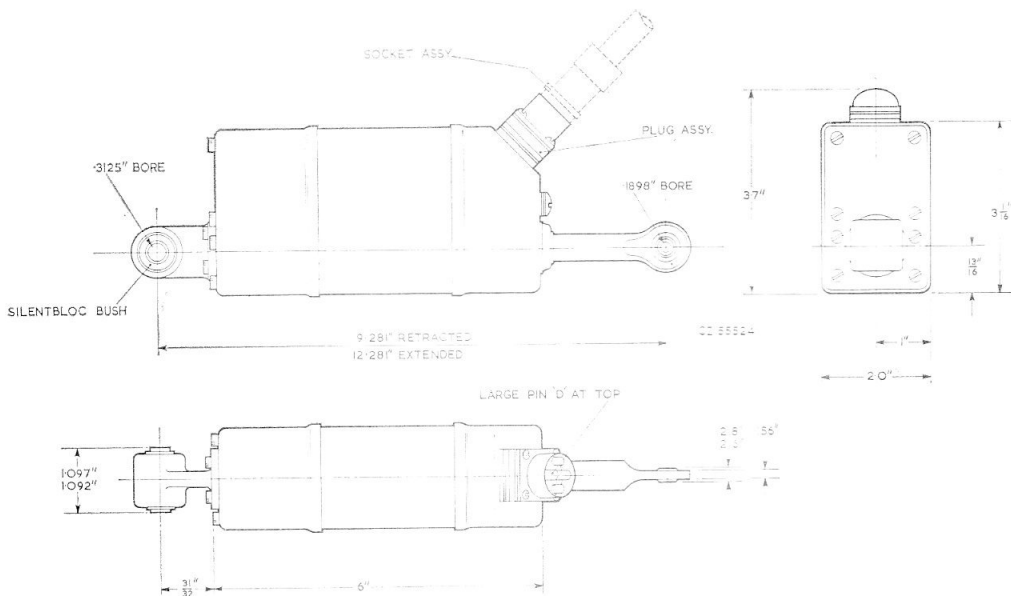

Fig. 4. Installation diagram
4. Fig. 4 is the installation diagram which includes details of end fittings, stroke setting, etc.
1. These actuators, Plessey Part No. 1CZ136520, are variants in the Jaguar (Standard) Series described in the main chapter. This type has a 6-pole plug, located at the front face of the front cover, for connection to the external electrical circuit. The typical circuit diagram, Fig. 4, in the main chapter, is applicable to actuators covered in this appendix. All other information given in the main chapter is applicable to the types